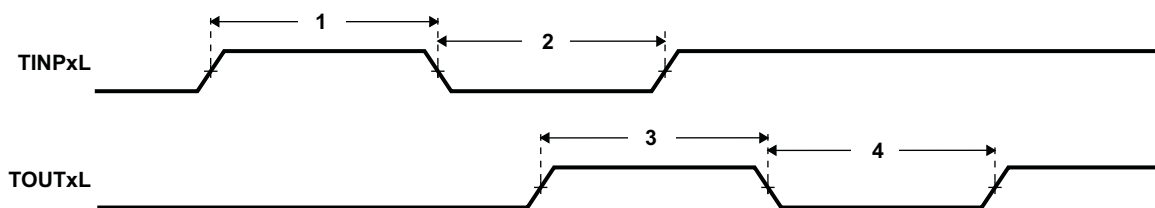

Figure 6-43. Timer Timing
Table 6-72. Timing Requirements for Timer Input^{(1) (2) (3)} (see Figure 6-43)
Table 6-73. Switching Characteristics Over Recommended Operating Conditions for Timer Output⁽¹⁾ (see Figure 6-43)